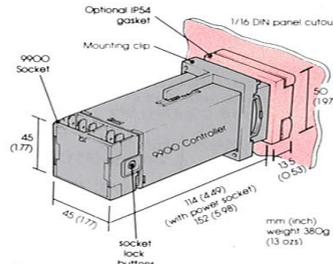

Fig. 6
4. Fit the mounting clip see fig. 6, pressing it firmly against the panel, jacking screws optional